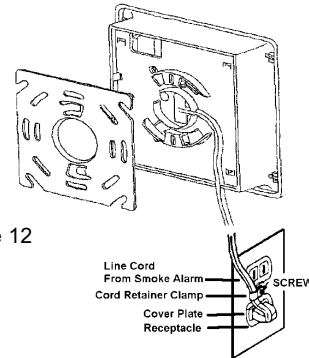

Figure 12
1. Care should be taken to lace cord through slots in base as shown in Figure 12 to insure cord does not interfere with engagement of the mounting bracket.
5. Use the enclosed cord retainer clamp as illustrated in Figure 12 to insure the unit is not accidentally disconnected.